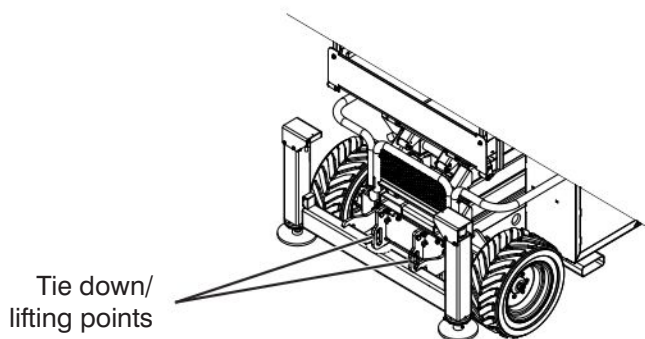

Figure 3-17. Tie Downs/Lifting Points
- The lifting/rigging must be attached to all four lifting points as illustrated in Figure 3-17.
When transporting, the aerial platform must be secured to the truck or trailer deck. Tie downs are available as illustrated in Figure 3-17.